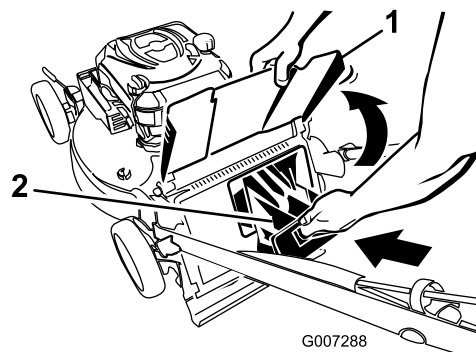

Figure 33
4. Install the rear discharge plug (Figure 33).